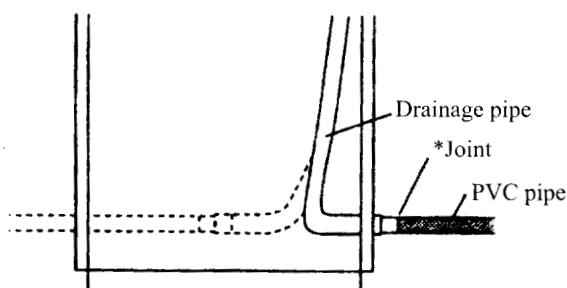

Fig 108
- (1) Use PVC pipe and thread it through one of the four passing holes of the indoor unit and connect it to drainage pipe joint. Use binder to bind the joint tightly to avoid leaking.
- (2) The drainage pipe must be sloped downwards to prevent water from accumulating in the pipe.
- (3) Use thermal insulation tape to wrap the joint (see Fig. 108) tightly.